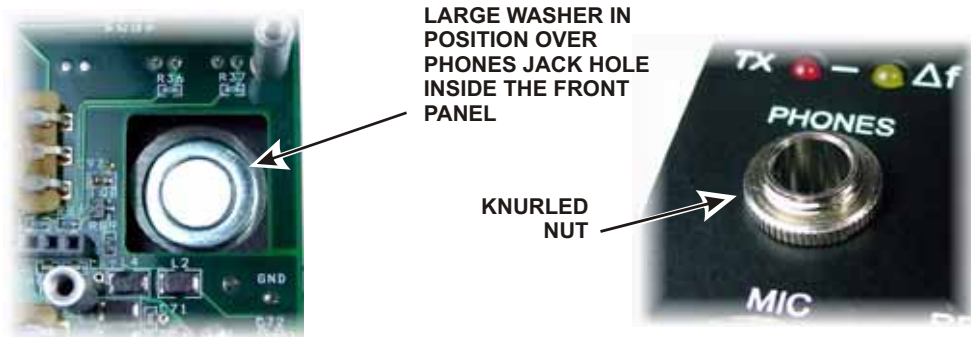

Figure 48. Phones Jack Hardware.
- Position the large flat washer on the inside of the front panel over the PHONES jack hole (see Figure 48 on page 35). This is easily done by sliding the washer into place from the end of the front panel.
- Screw the knurled nut onto the threaded shaft of the PHONES jack where it exits the front panel (see Figure 48). Screw it only finger tight. Do not use pliers.